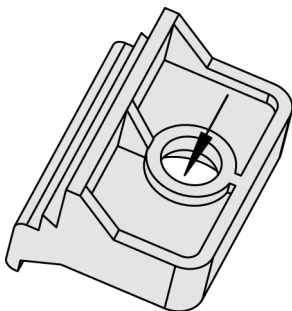

Fig. 20: Insert screws in clamps
3. ➔ Insert the four clamping screws into the clamp inserts from the shown side (Fig. 20; opposite the nut insert) until they are almost flush. Do not completely insert the screws into the clamp inserts.